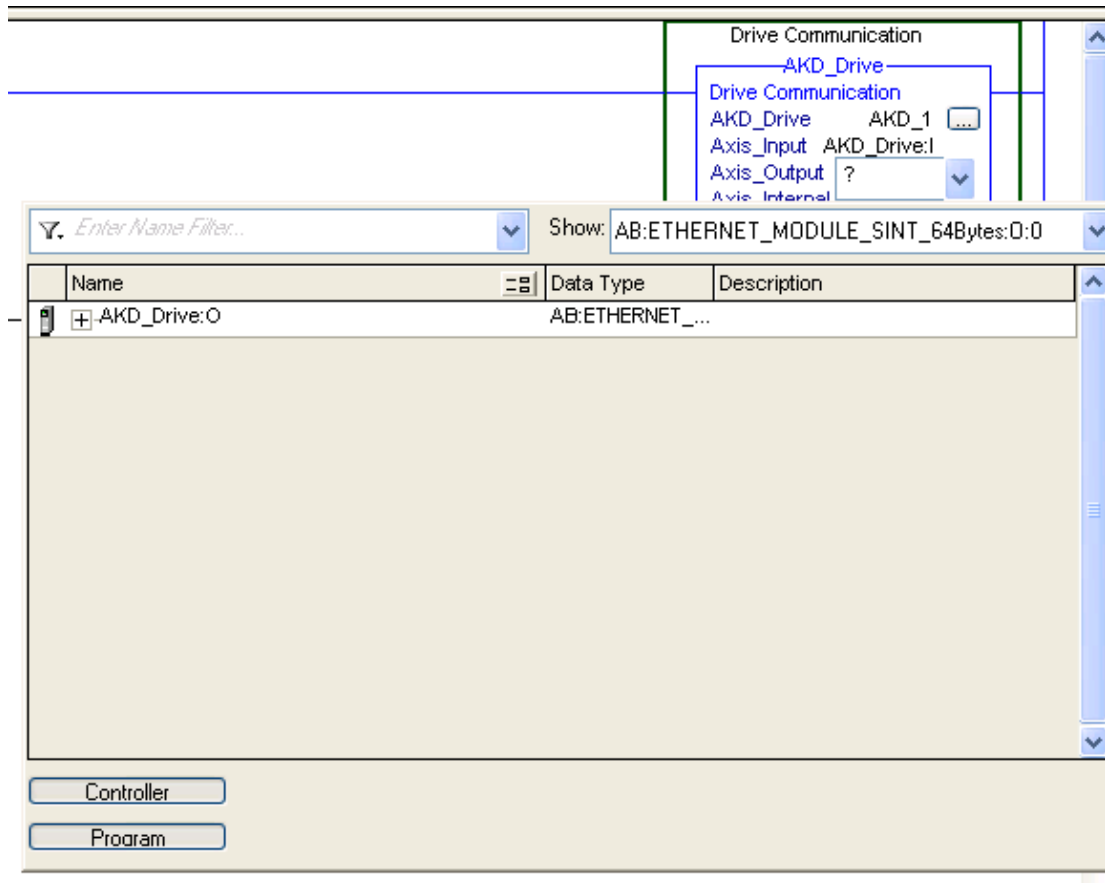

Figure 4-18: Axis Communication Output
5. Set the Axis_Input parameter to the input data of the axis for which you are setting up communication (Figure 4-18: Axis Communication Input). Double click the "?". A drop down box will appear. Select the input data tag that corresponds to the "ETHERNET-MODULE" object you created in the I/O Configuration of the project.